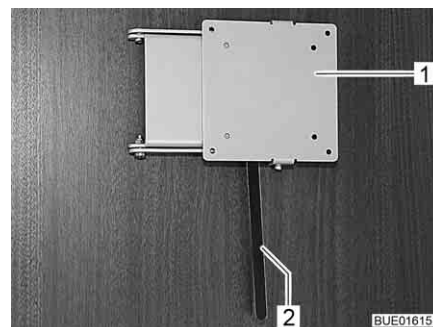

Fig. 77 Holder with release lever
- Push the release lever (Fig. 77,2) to the side and turn the holder (Fig. 77,1) with the flat screen to the desired position.
- Turn flat screen back until the holder (Fig. 77,1) engages in the lock.